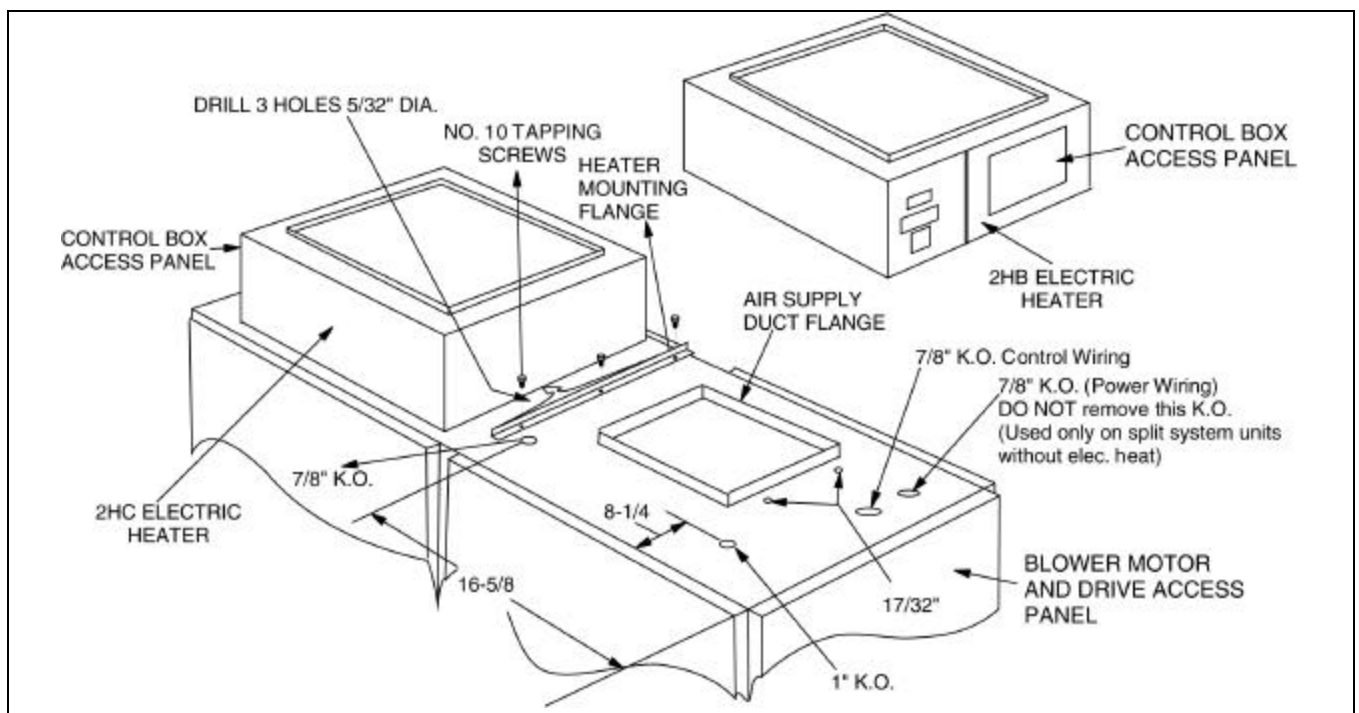

FIGURE 2 : HEATER INSTALLATION FOR 20 TON DISCHARGE
3. Remove the access panel of the blower motor compartment from the indoor unit for access to the blower motor contactor box and low voltage terminal block TB1. (Refer to Figure 2.)
12. Remove the 7/8" knockout from the back panel of the contactor box (at the top for 180 MBH units) and insert the 1/2" strain relief bushing, provided with the accessory, into this opening. (Refer to Figure 2.)
15. Secure the wiring harness to the support angle with the two ty-raps provided with the accessory. Holes are pre-punched in the support at the locations shown in Figure 2.